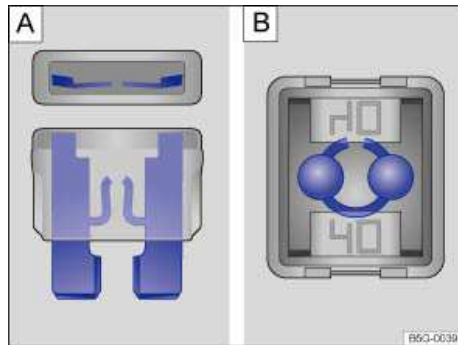

Fig. 170 Blown fuse: A: Blade fuse. B: Cartridge fuse.
- A blown *blade fuse* (ATO, MINI) has metal strips that have burned through, which you can see through the transparent housing from above and from the side ⇒ fig. 170 A.